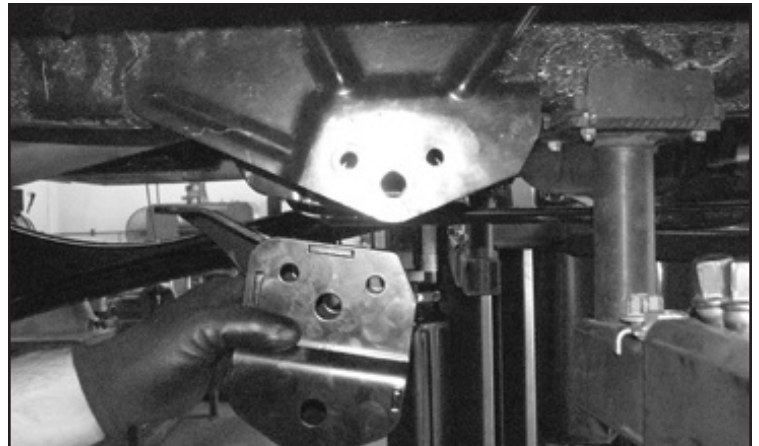

FIGURE 33 - STEP 40
40. Slide the Fabtech radius arm mount into the factory pocket with the frame tab facing the front of the truck. **SEE FIGURE 33**